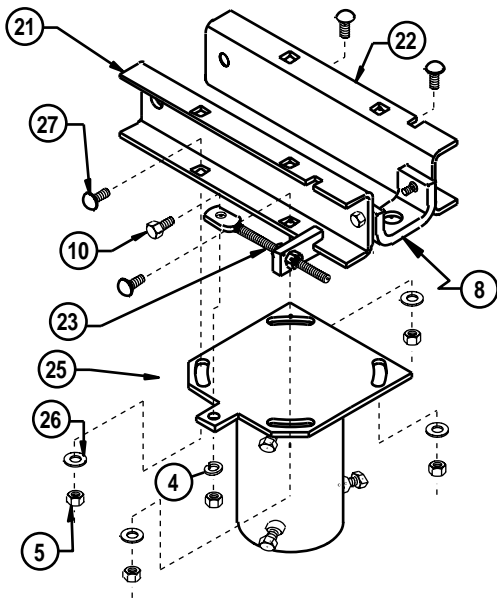

FIGURE 1.0
1 - Place yoke cap assembly (25) onto ground pole. Assemble channel and assembly to yoke cap assembly with (4) M12 x 35mm Rd. Hd. Sq. Nk. (Item 27), flat washers and hex nuts (5 & 26) as shown in Figure 1.0. Loosen trunnion bolts.
IMPORTANT: "UP" arrow on reflector must be as shown in Figure 1.4. Make sure Round Head Square Neck Bolts are seated correctly before securing reflector to backframe. Pre-torque (4) M12 x 35mm Round Head Square Neck Bolts (Item 27) to 8-10 ft-lbs (12 N-m). (Refer to Fig. 1.0)